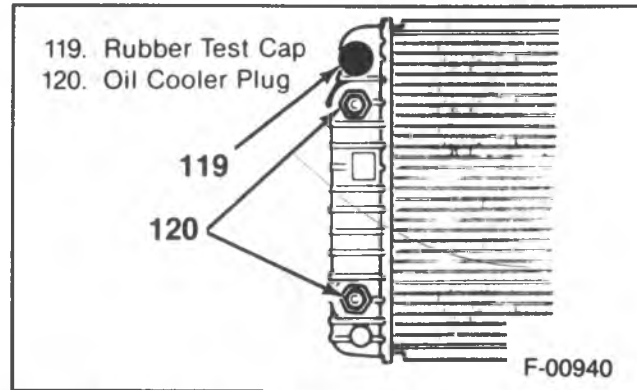

Figure 6 — Aluminum Radiator and Oil Cooler Plugs
1. Install test fittings or rubber test caps in the inlet and outlet necks and seal the oil cooler fittings with metal plugs to protect the cooler and keep the fluid from running out (figure 6).